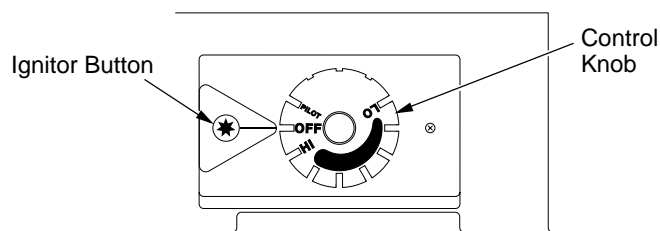

Figure 30 - Control Knob In The OFF Position
4. Wait five (5) minutes to clear out any gas. Then smell for gas, including near the floor. If you smell gas, **STOP!** Follow "B" in the safety information above. If you don't smell gas, go to the next step.
5. Turn control knob counterclockwise  to the PI-LOT position. Press in control knob for five (5) seconds (see Figure 30).